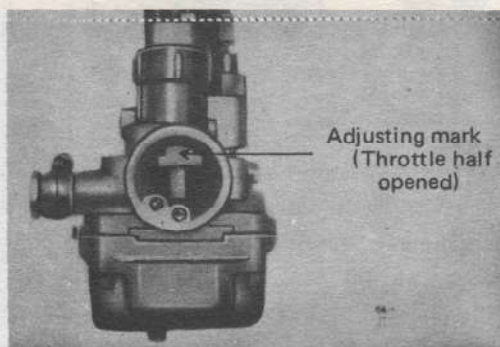

Fig. 2-4
- b. Make sure the V-mark on the pump adjusting pulley aligns with the guide pin when the throttle valve is half open. (Figs. 2-4 & 5)